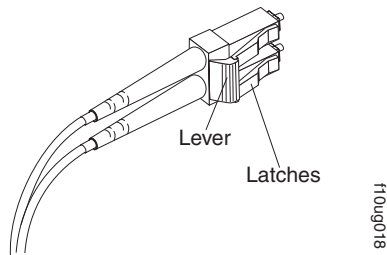

Figure 35. LC-LC fibre-channel cable lever and latches
1. On the end of the LC-LC cable that connects into the SFP module or host bus adapter, press down and hold the lever to release the latches, as shown in Figure 35.